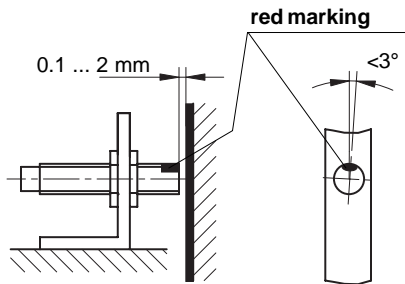

Fig. 7: Mounting of sensor Typ F
- When mounting the magnetic sensor, ensure that the gap between strip & sensor and the max. admissible deviation are maintained over the total measuring length! (see fig. 7 and 8)